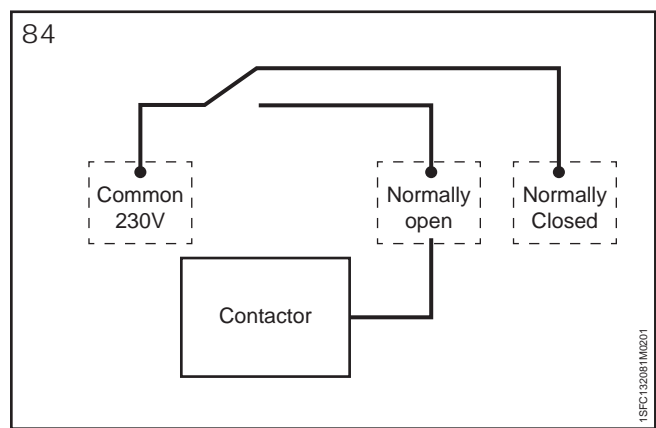

Figure 84: A contacor may for example be connected (230 volts)
Each relay has three terminals, one common terminal (COM), one normally open terminal (NO) and one normally closed terminal (NC). **See Figure 84.**